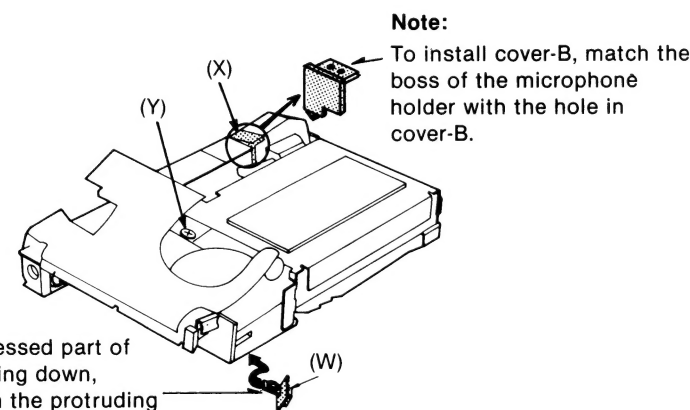

Fig. 13
5. Remove the tape speed selector switch knob (W) and cover-B (X). (Fig. 13)
6. Remove the screw (Y) (1.4×1.4)mm securing the recording switch. (Fig. 13)